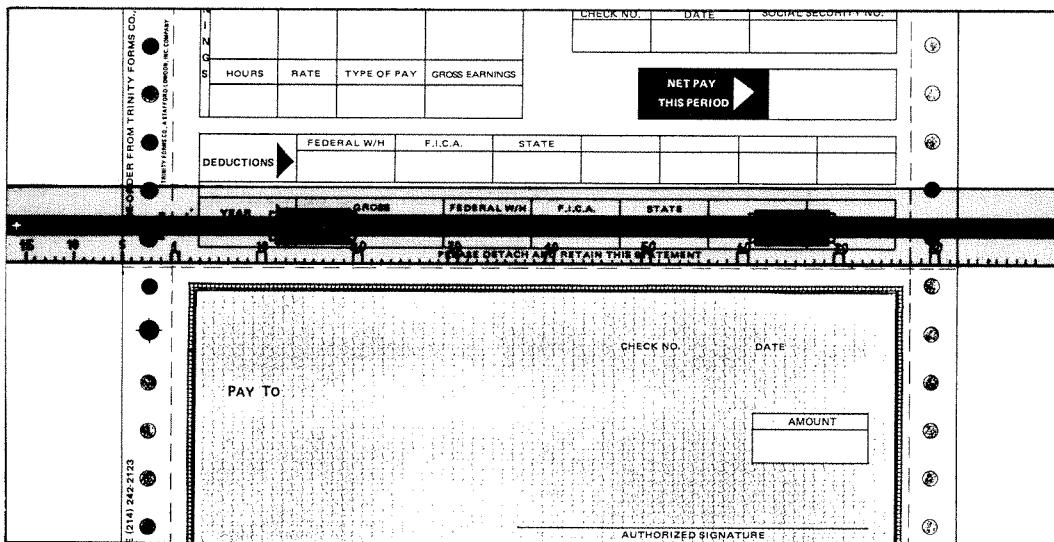

Figure 1.
2. Set the top perforation of check at the bottom of the plastic guide. See Figure 1.